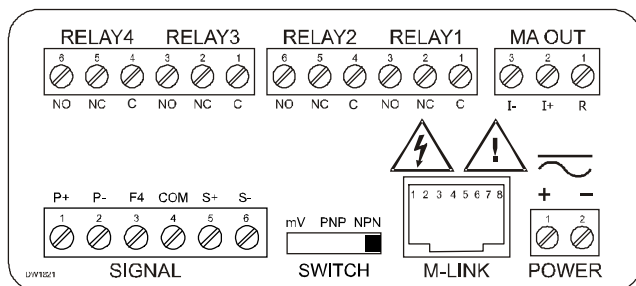

Figure 7: Connector Labeling for Fully Loaded PD6310
Signal connections are made to a six-terminal connector labeled SIGNAL on Figure 7. The COM (common) terminal is the return for the input signals.
Serial communications connection is made to an RJ45 connector labeled M-LINK on Figure 7. Use the PDA1232 for RS-232 interfacing, the PDA1485 for RS-485 interfacing, or the PDA8008 for USB interfacing. The same port is used for interfacing with all expansion modules (e.g. external relays, digital I/O).
Relay connections are made to two six-terminal connectors labeled RELAY1 – RELAY4 on Figure 7. Each relay's C terminal is common only to the normally open (NO) and normally closed (NC) contacts of the corresponding relay. The relays' C terminals should not be confused with the COM (common) terminal of the INPUT SIGNAL connector.